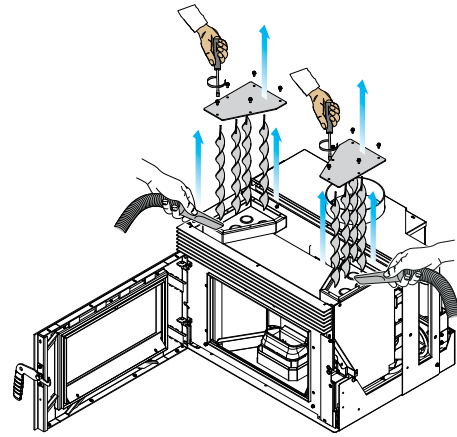

fig. 7.16
- C) Remove the insert's top stoppers and vacuum the remaining ash (fig. 7.16)